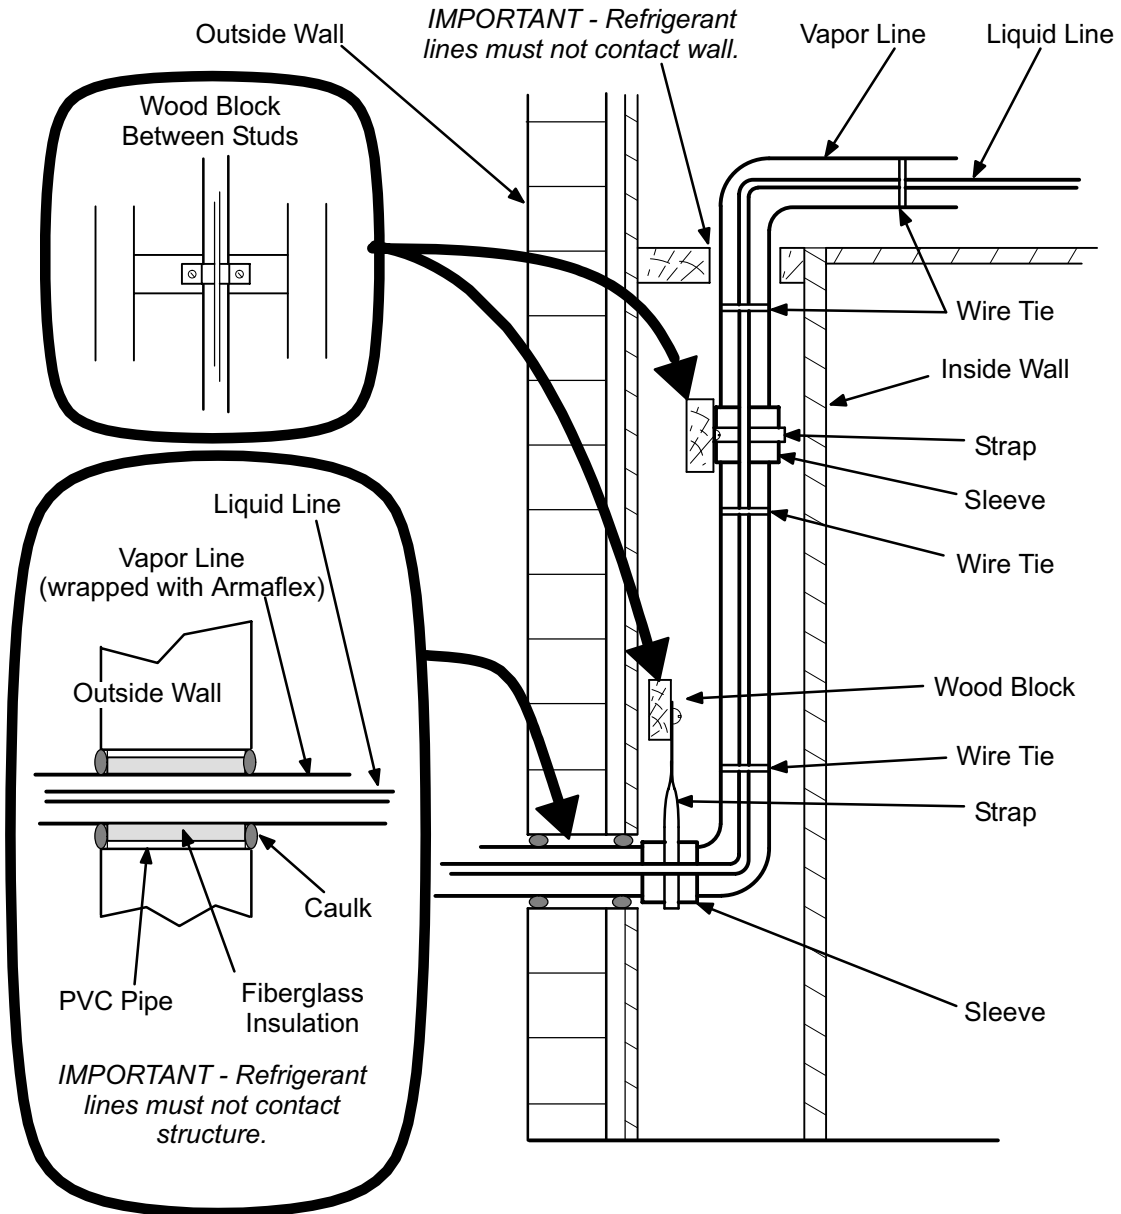
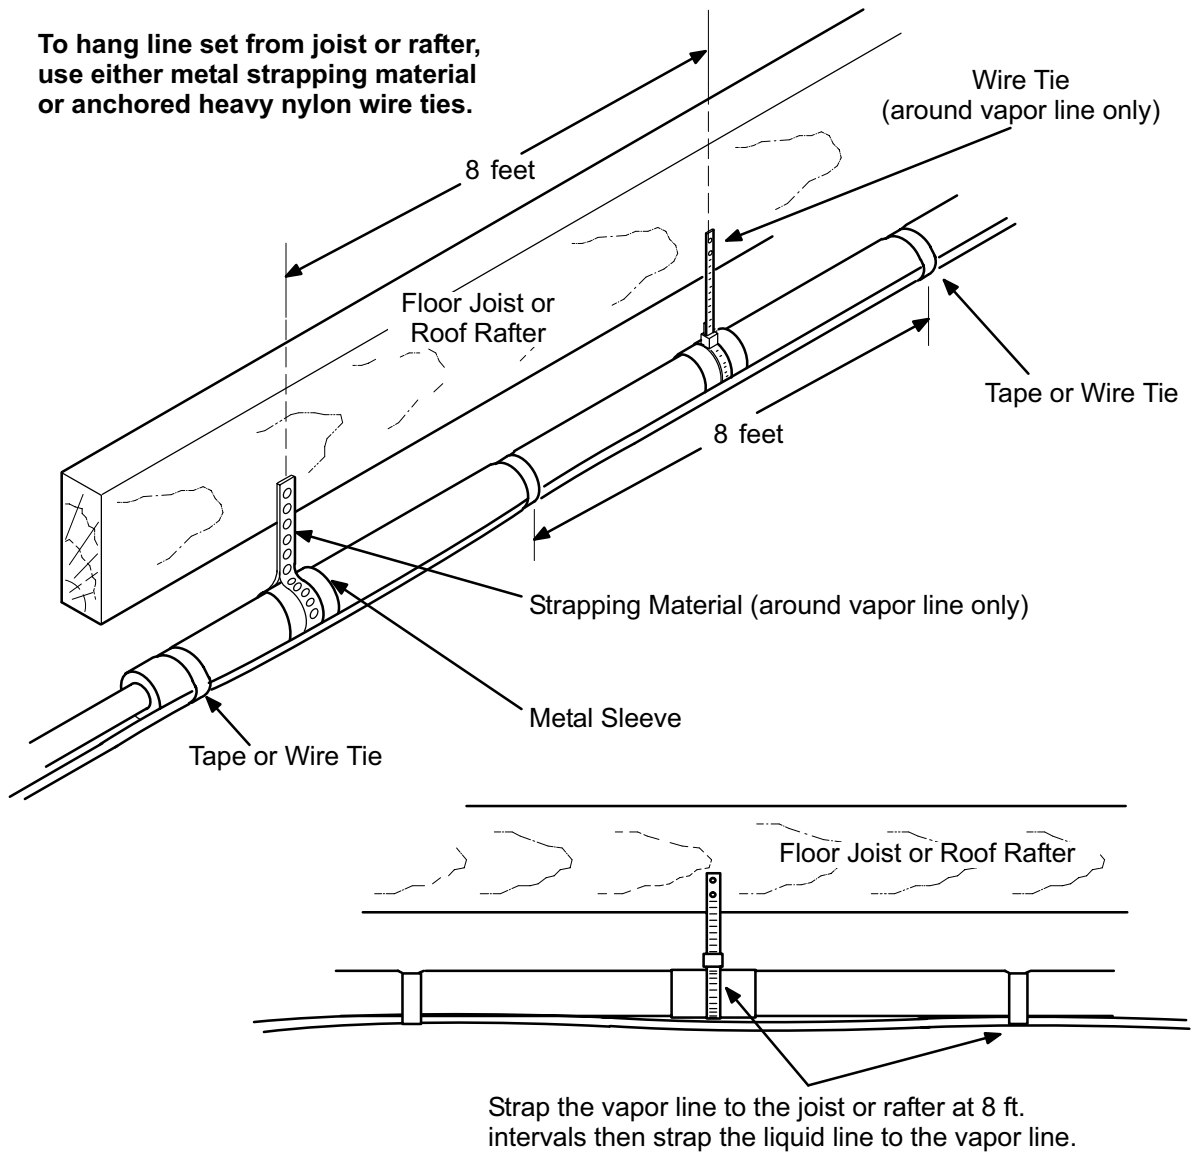
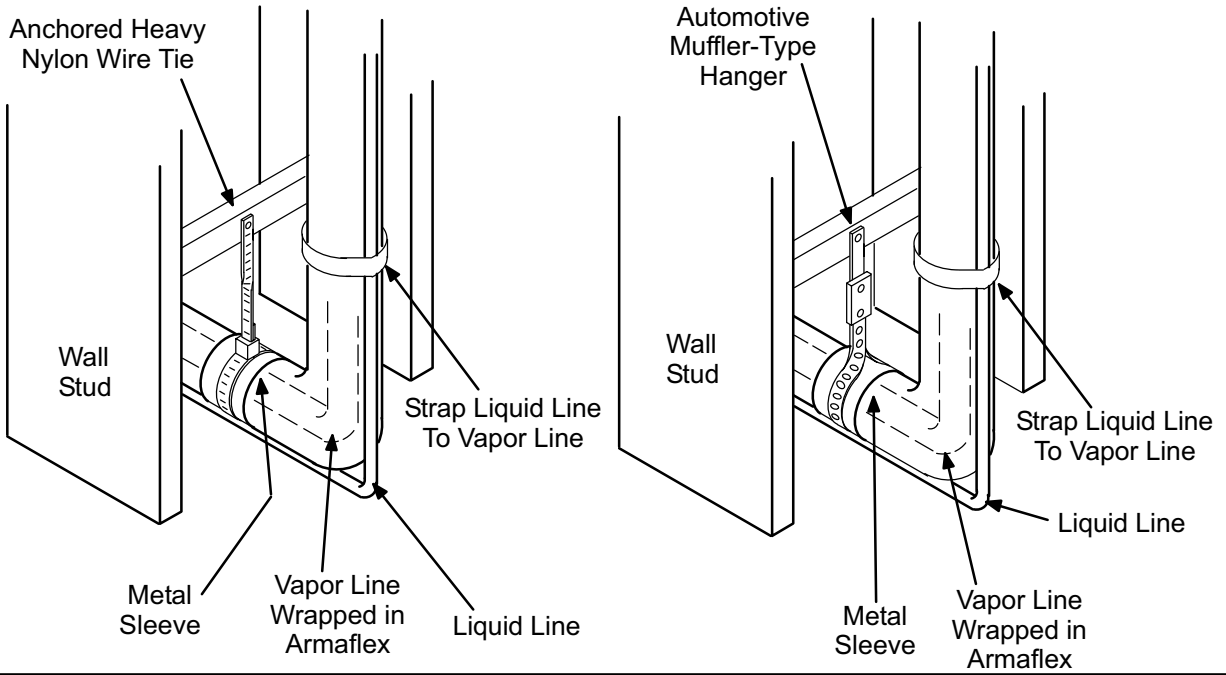
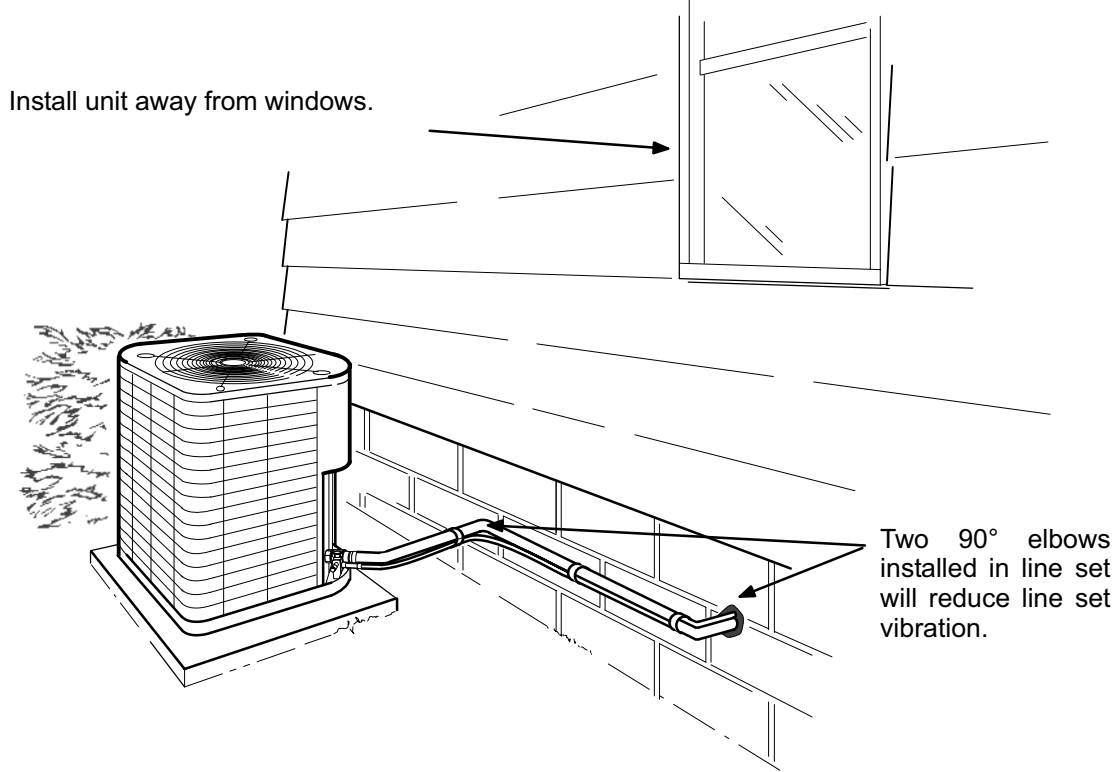

Figure 5
Figure 6
Figure 7
Figure 8
- 2- **Line Set Isolation** - The following illustrations demonstrate procedures which ensure proper refrigerant line set isolation. Figure 5 shows how to install line sets on vertical runs. Figure 6 shows how to install line sets on horizontal runs. Figure 7 shows how to make a transition from horizontal to vertical. Finally, figure 8 shows how to place the outdoor unit and line set.